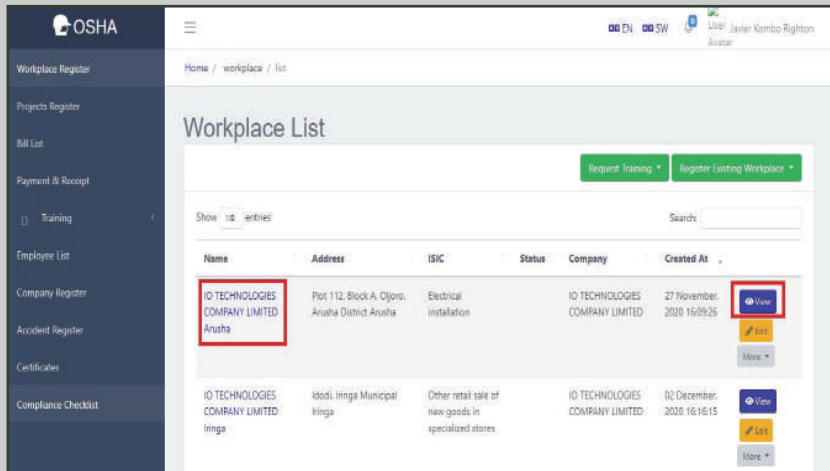

Figure 24: Viewing workplace details
- i) Click on the view button or workplace name on the displayed workplace list as shown on Figure 24.